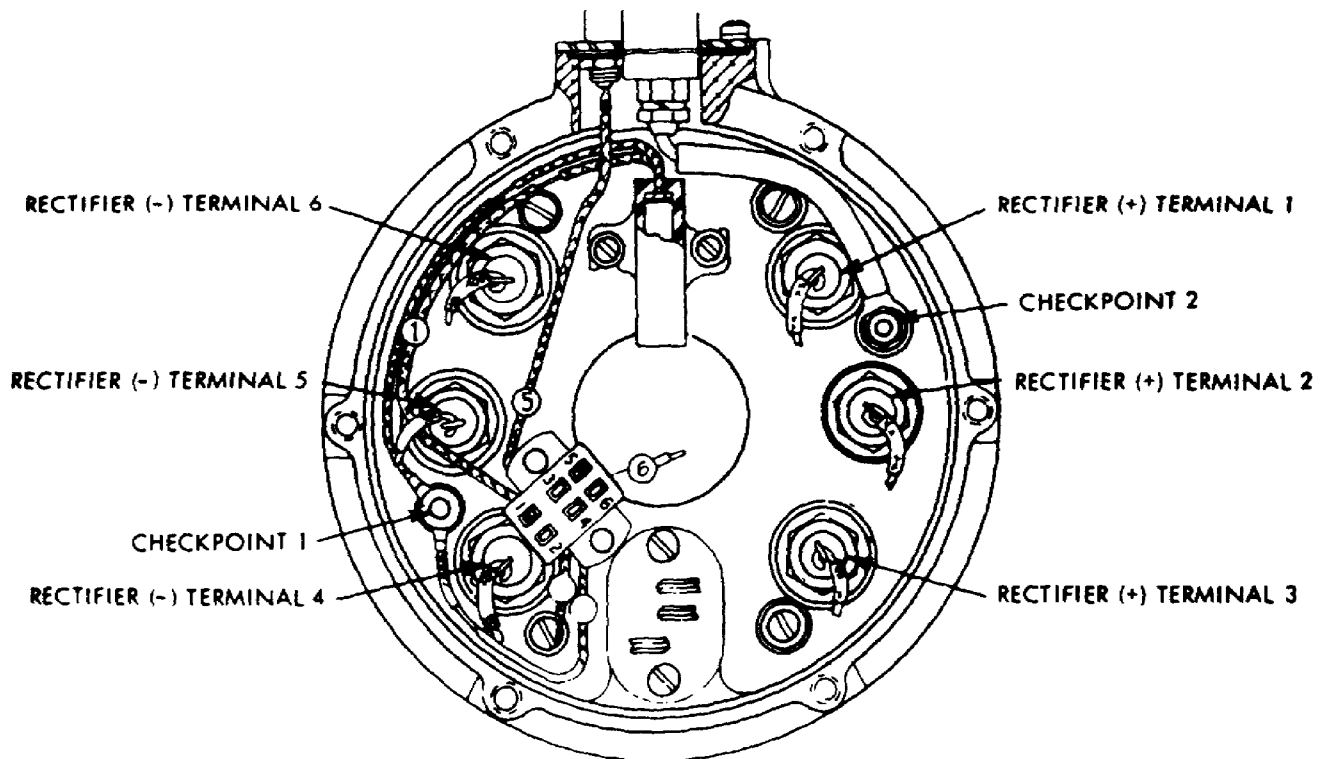
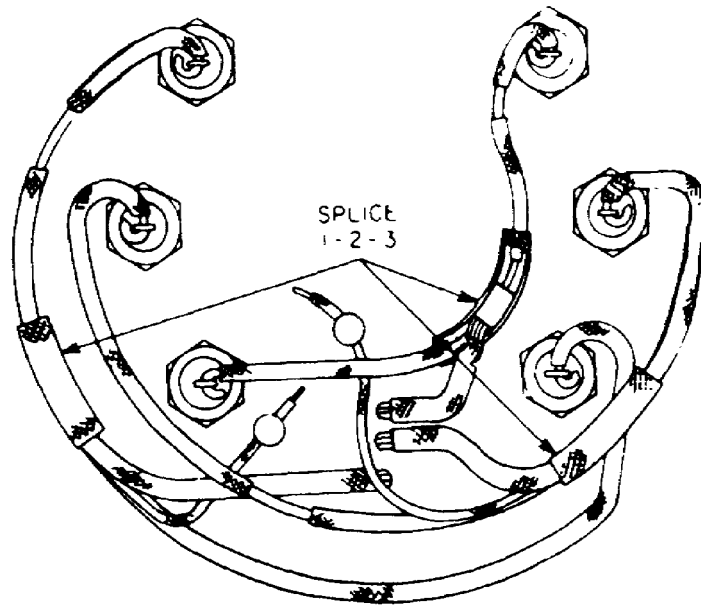

Figure 9. Rectifier test.
Figure 10. Continuity test.
(3) On the front of the drive end housing is a cover plate (26) which allows access to the 40/60-ampere regulator taps.
(4) On the circumference of the drive end housing is a pipe plug (24). Beneath this plug is the voltage output adjustment for the generator.
b. With the drive end housing removed, six rectifying diodes are exposed within the intermediate housing along with the brushes and sliprings on the rotor (fig 9).
- (1) Select low ohmmeter range.
- (2) Zero the ohmmeter.
(3) Connect one ohmmeter lead to checkpoint 2 (fig 9) and the other ohmmeter lead to splice 1, then 2 and 3 (fig 10), while observing the meter. Note the readings obtained.
(4) Reverse ohmmeter lead connections and repeat checks in (3) above.
(5) Readings obtained when connected one way should be low. When connected in reverse, readings should be near infinity if diodes are serviceable.
b. Negative heat sink test. Repeat tests in a above with one exception: connect one ohmmeter lead to checkpoint 1 (fig 9).